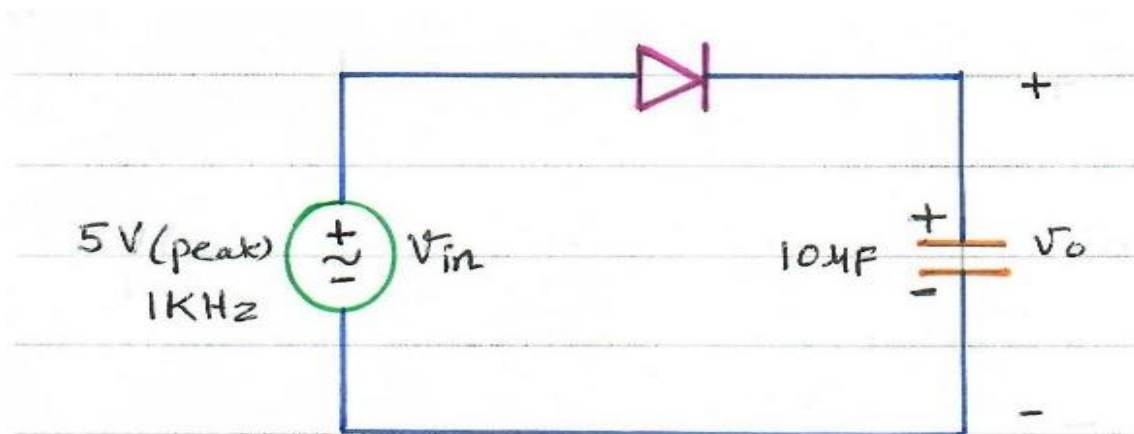

Fig. 1: Positive Peak Detector
1. Connect the circuit as shown in Fig. 1.